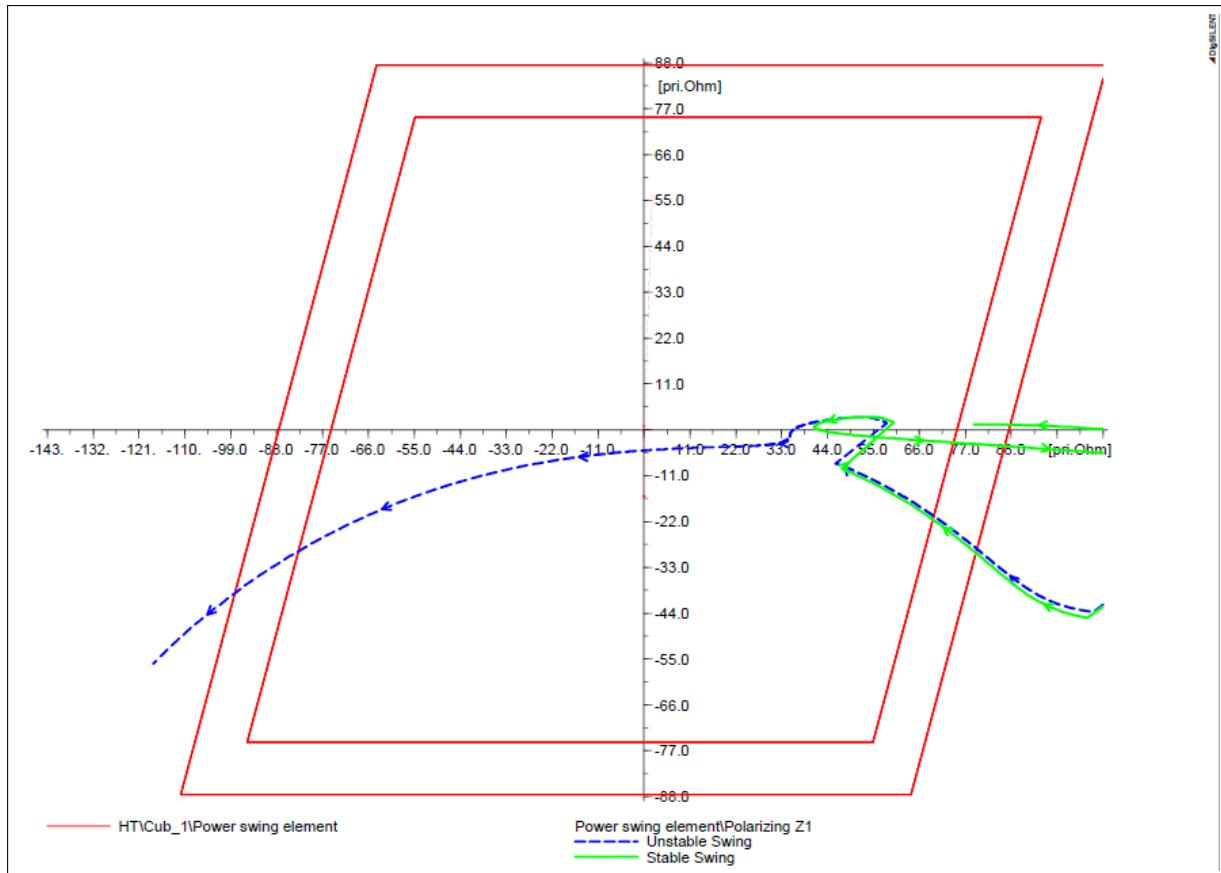

Figure 33.5.3: Stable (green) and unstable (blue) power swings
The second function of the power swing block is the detection of unstable power swings and the issuing of a trip command - this is known as out of step or loss of synchronism protection. Figure 33.5.3 shows a typical power swing blocking characteristic in red, a stable power swing impedance trajectory in green and an unstable power swing trajectory in blue. The difference between these two characteristics is that the stable swing enters and exits the impedance characteristic on the same side, whereas the unstable swing exits on the opposite side. Logic can be used to detect these different conditions and thereby issue a trip when the unstable swing is detected.
**OOS No. of Crossings** This field configures how many crossings of the impedance characteristic must occur before an out of step trip is issued. For example, the blue trajectory in Figure 33.5.3 is counted as one crossing.